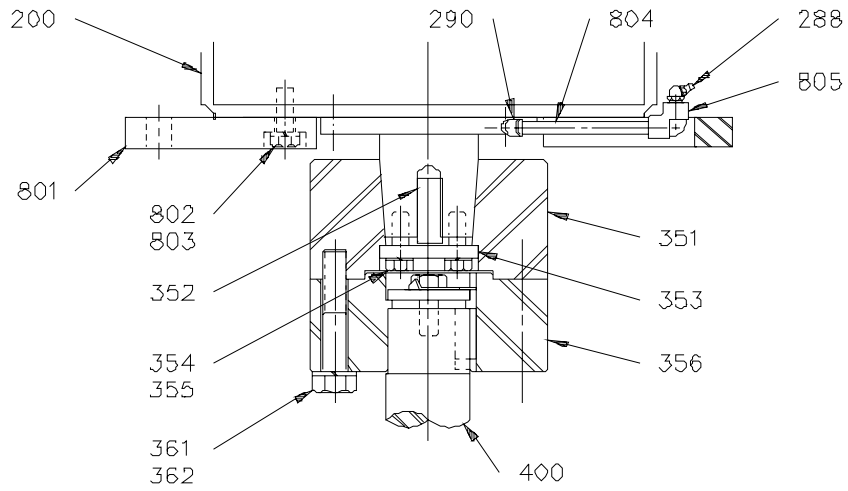

Figure 6: Model HTD
7. Lift and suspend the agitator drive assembly over the extension shaft coupling half close enough to allow installation of coupling bolts and lockwashers [361, 362]. Install two bolts at 180°. Tighten the bolts to engage the tenon and pull the coupling faces together. See *Figures 6 and 7, page 15*.